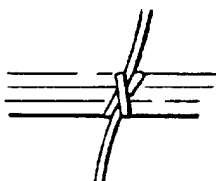
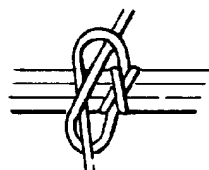
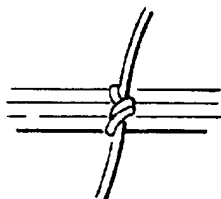
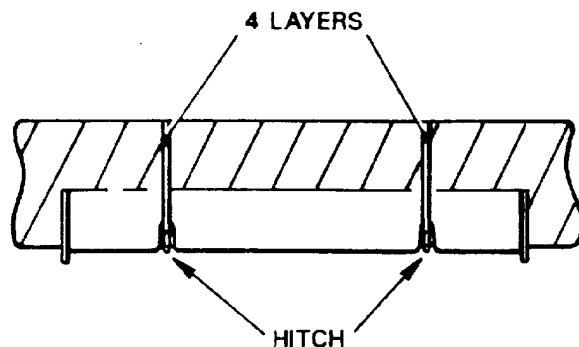

Fig 8
Fig 9
Fig 10
Fig 13
5. Pull both ends of lacing tight and securely reef knot (see Fig 8). Make a further hitch as shown in Fig 9 to Fig 12.
6. Repeat operations 2 to 5 on lacing tape 2. See Fig 13.
, Fig.9, Fig.10, Fig.11, Fig.12 and Fig.13